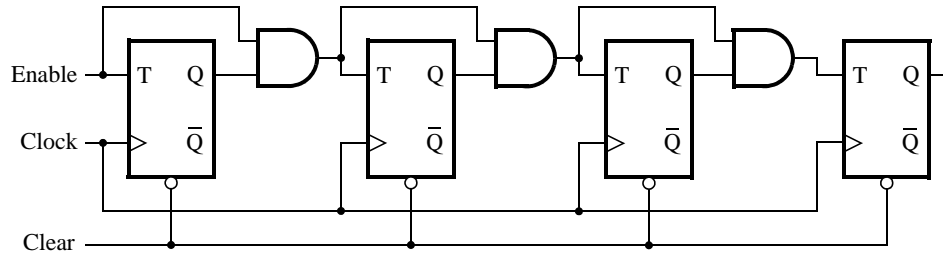

Figure 1: A 4-bit counter.
Consider the circuit in Figure 1. It is a 4-bit synchronous counter which uses four T-type flip-flops. The counter increments its value on each positive edge of the clock if the *Enable* signal is asserted. The counter is reset to 0 by setting the *Reset* signal. You are to implement a 16-bit counter of this type.
1. Write a Verilog file that defines a 16-bit counter by using the structure depicted in Figure 1. Your code should include a T flip-flop module that is instantiated 16 times to create the counter. Compile the circuit. How many logic elements (LEs) are used to implement your circuit? What is the maximum frequency, F_{max} , at which your circuit can be operated?